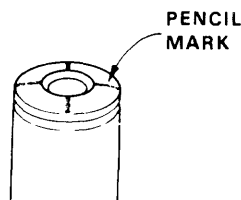

Figure 1 — Pencil X on the probe surface
- Lightly pencil an "X" across the probe's gold sensing surface (See Figure 1).